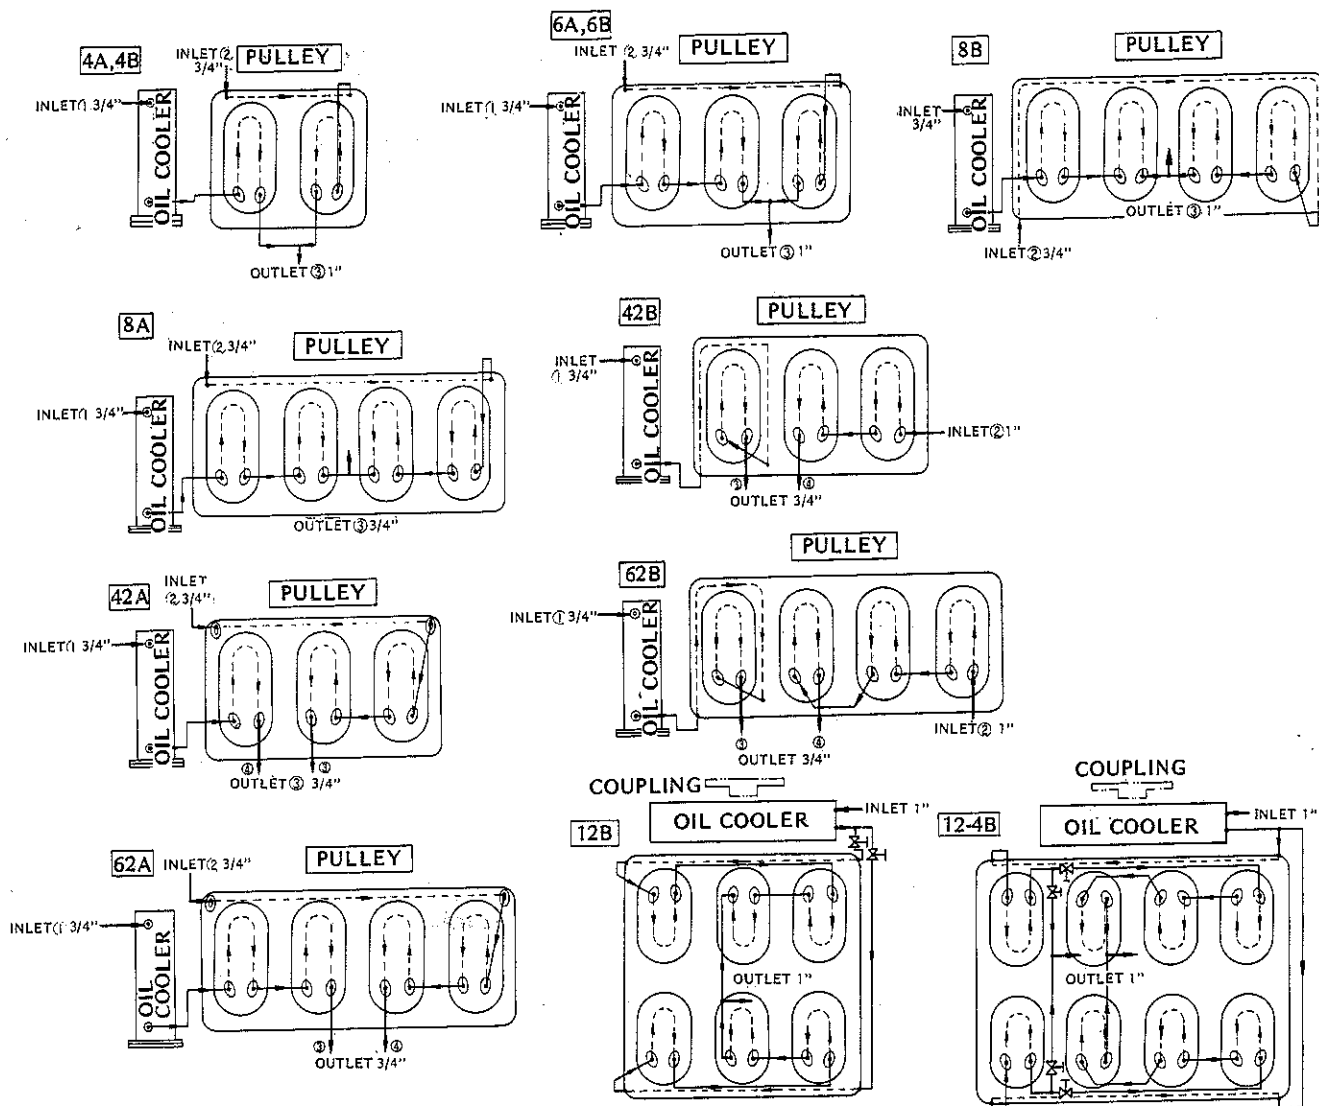

Fig. 50 Standard cooling water flow chart (Jacket head cover)
- a. The standard cooling water flow chart is as illustrated in Figure 50.